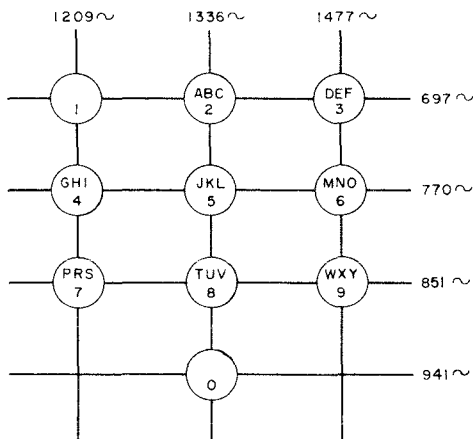

Fig. 2 — Dial Frequencies
2.03 Any pushbutton depressed will close one low band and one high band frequency contact. These contacts close a path for 2 of the 7 output frequencies of the oscillator. (Fig. 2).